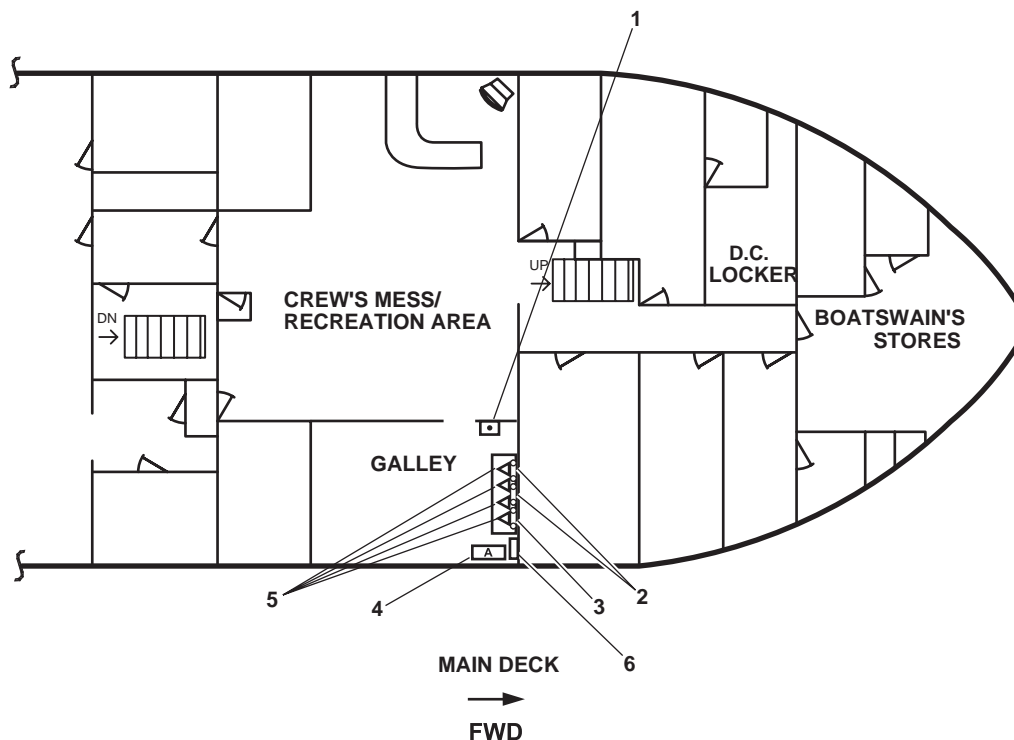

Figure 10. Galley Fire Suppression System
The galley fire suppression system is designed to extinguish fires that originate in the galley and the galley cooking equipment. The galley fire suppression system is a pre-engineered, wet chemical, cartridge operated, regulated pressure type extinguishing system. The system is capable of manual activation through the use of a manual pull box (figure 10, item 1) or automatic actuation through the use of fusible links (figure 10, items 2 and 3) rated at 500 °F (260 °C) and 360 °F (182 °C), respectively.
The extinguishing agent is formulated with an aqueous solution of organic salts with a pH range between 7.8 and 8.2. It is designed for flame knock down and foam coverage of grease related fires. The wet chemical agent is stored in a 3-gallon (11.3 liter) carbon steel tank housed in a stainless steel enclosure (figure 10, item 4) mounted on the starboard bulkhead of the galley. The storage tank has a working pressure of 100 PSI (6.9 bar). The extinguishing agent is propelled by the use of a gas cartridge of carbon dioxide or nitrogen gas and delivered to the distribution nozzles (figure 10, item 5). The distribution nozzle tips have blow off caps to keep the nozzle orifices free of cooking grease buildup.
Activation of the galley fire suppression system is accomplished manually by pulling the manual pull box (figure 10, item 1) or automatically by the melting of a fusible link (figure 10, items 2 and 3). Once the system has been manually or automatically activated, the gas charge propels the extinguishing agent (figure 10, item 4) to the distribution nozzles (figure 10, item 5). The electrical source for the protected equipment is not shut off, and the agent and the hot grease mix to form foam. This foam temporarily seals the combustible vapors, helping to inhibit re-ignition. The crew must secure the galley heat producing equipment. Once the galley fire suppression system has been activated, the Gaylord washdown system (figure 10, item 6) is activated in the fire cycle and sprays water into the Gaylord hood ventilation ductwork. Ventilation ducts are automatically secured by the activation of the Gaylord washdown system.